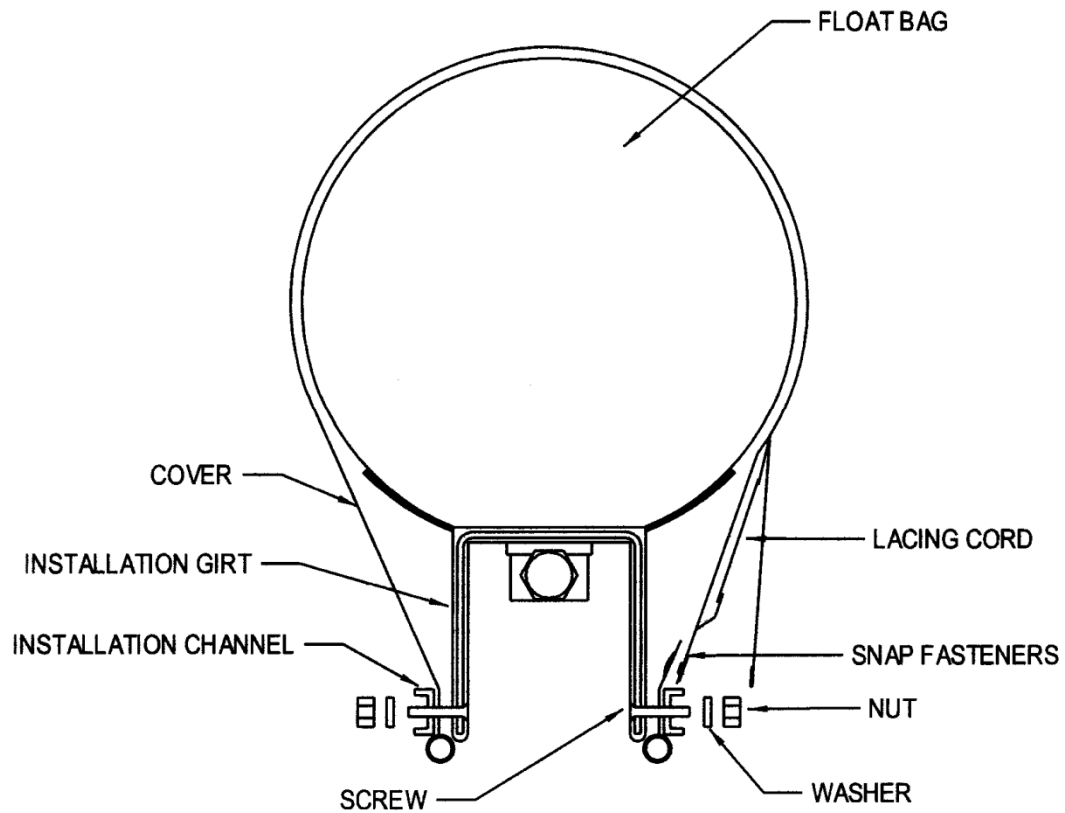

Figure 5-1. Float Cover Installation
- B. Remove the nuts and washers from the attachment channels and remove the covers (Refer to Figure 5-1).